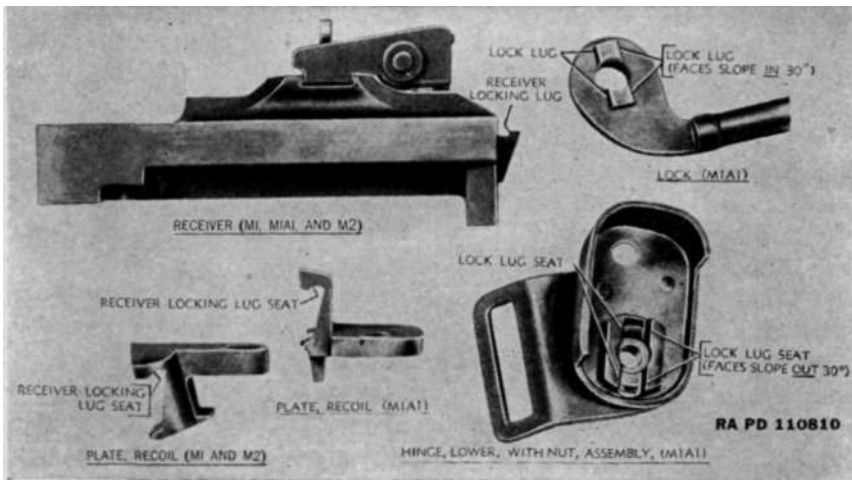

Figure 63. Important wearing surfaces.
(4) Inspect recoil plate cap for dents and fit with rear end of stock. Plate should lie flush at the edges with the stock and receiver.
(5) Inspect recoil plate for security and level seating on stock. Plate should seat level and firm on stock, held down by grip screw passing through plate and stock and into routed threads in grip. When assembled, the grip screw holds all three parts together. The hinge screw, when assembled and threaded into the nut, binds the parts still tighter, and prevents the grip from twisting.
(6) Inspect receiver locking lug seat in recoil plate for wear and burrs. (See fig. 63.) When assembling, the locking lug on receiver should cam smoothly into the seat, and be held there snugly without play or shake.
(7) Inspect grip screw for length and burred threads. Replace the  $2\frac{3}{32}$ -inch hinge screw by a  $2\frac{3}{4}$ -inch screw. If screw has not been replaced, deepen grip screw hole to a total depth of 1.125 inches with a No. 21 drill (diameter 0.159 inch). Inspect routed threads in grip for wear and stripping. Screw should turn in snugly to retain recoil plate and grip. If screw is loose, routed threads will eventually strip out and grip twist loose.
(8) Inspect grip spring washer for deformation. Spacer should fit in hole in lock on lower bar, when assembled.
(9) Inspect hinge screw spacer for deformation. Spacer should fit in hole in lock on lower bar, when assembled.
(10) Inspect locking nut for looseness in lower hinge shell. Inspect shell for deformation. Inspect sling eyelet for looseness on hinge shell.
(See fig. 63.) (Nut is staked or spot-welded in shell, and eyelet spot-welded to shell.) Check locking slot in nut for wear and burrs (angle of slot face is 30°). Inspect lower hinge screw for wear and inspect threads in grip for stripping.